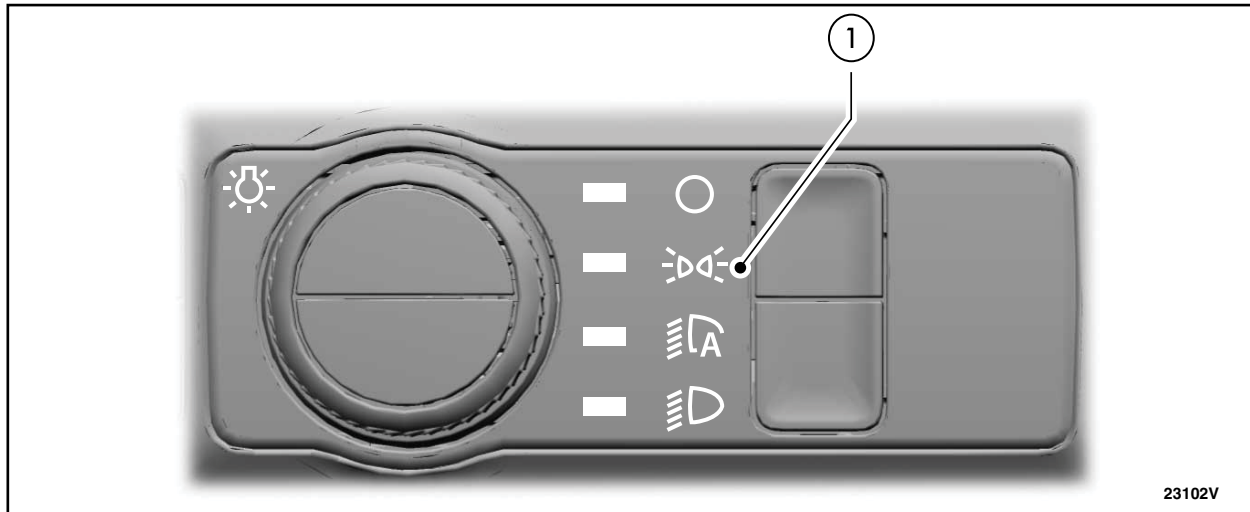

FIGURE 29
35. Start the vehicle and turn the light knob to the "parking light" mode. See Figure 29.